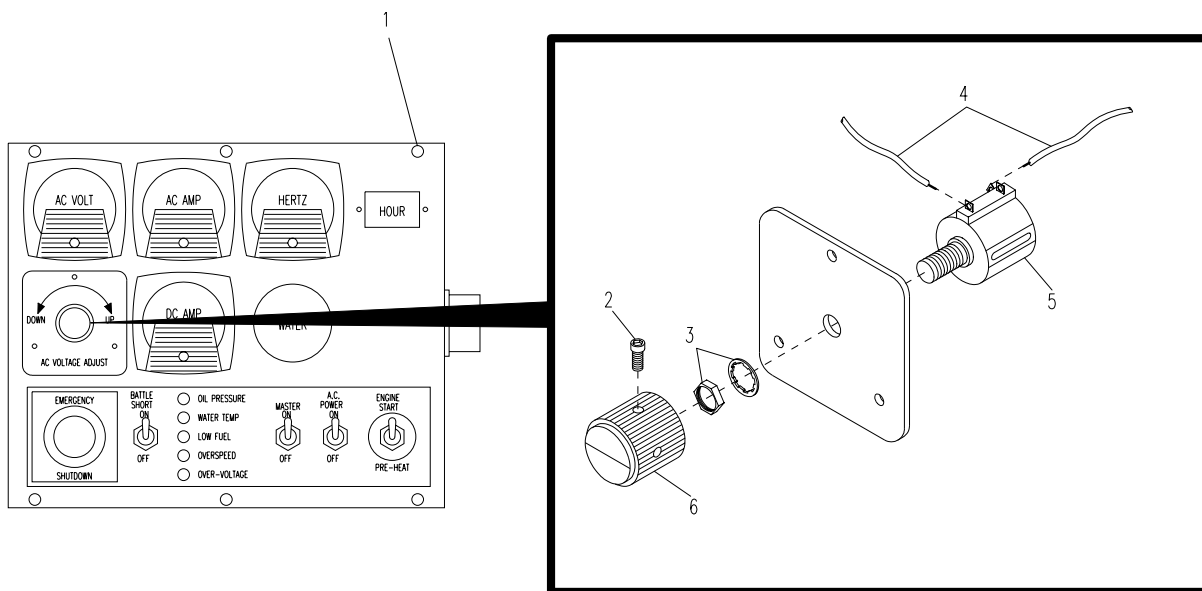

Figure 4-47. AC Voltage Adjust Potentiometer
- a. Remove ten screws (caged nuts (SICPS), machine screws (JTACS and WIN-T)) (1, Figure 4-47) securing APU control unit cover to chassis and remove cover.